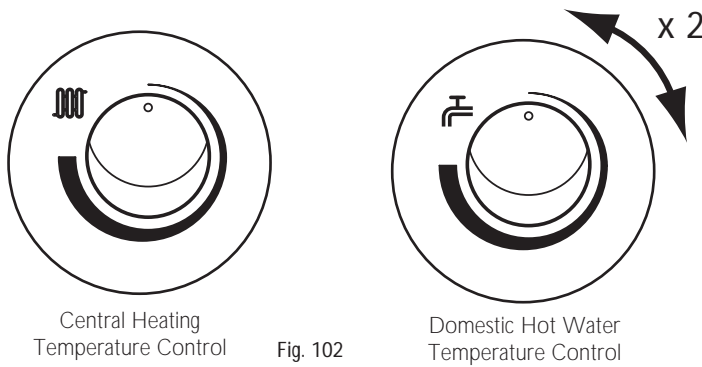

Fig. 102
3. Turn both control knobs fully anticlockwise, then quickly turn the right hand knob 1/4 clockwise twice and back fully anticlockwise (Fig. 102).